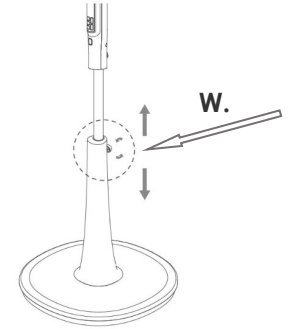

FIG.15
22. Height Adjustment Screw (Fig.15)
- Loosen anticlockwise and remove base plate triangular screw (25) from lower pedestal (23).
- Insert the lower pedestal (23) into the base plate (24).
- Loosen the height adjustment screw (22) at the back of the lower pedestal and extend the inner pole (20) to the full extension.
- Loosen the large screw at the back of the upper pedestal (16) and place over the inner pole (20) with the power cord (26) to the rear.
- Tighten the fixing screw (21) firmly with a screwdriver to secure the join.
- See Fig.15 on Page 8 for height adjustment information.
- Remove the blade cap (5) by turning clockwise and remove the clamping nut (7) by turning anticlockwise.
- Install the rear grille (8) by positioning onto the three pins on the front motor cover (10).
- Secure the clamping nut (7) in place by turning it clockwise.